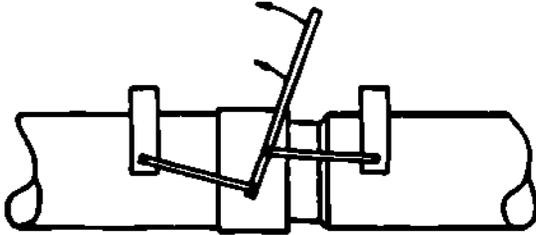

Figure 1-77. Frame Puller
b) The frame puller (Figure 1-77) comprises two frames that clamp the pipe on each side of the coupling. They are joined by two handles on each side that connect to levers. When pressure is applied to the levers, the frame tightens on the pipe, giving a positive pull between the two pipes.